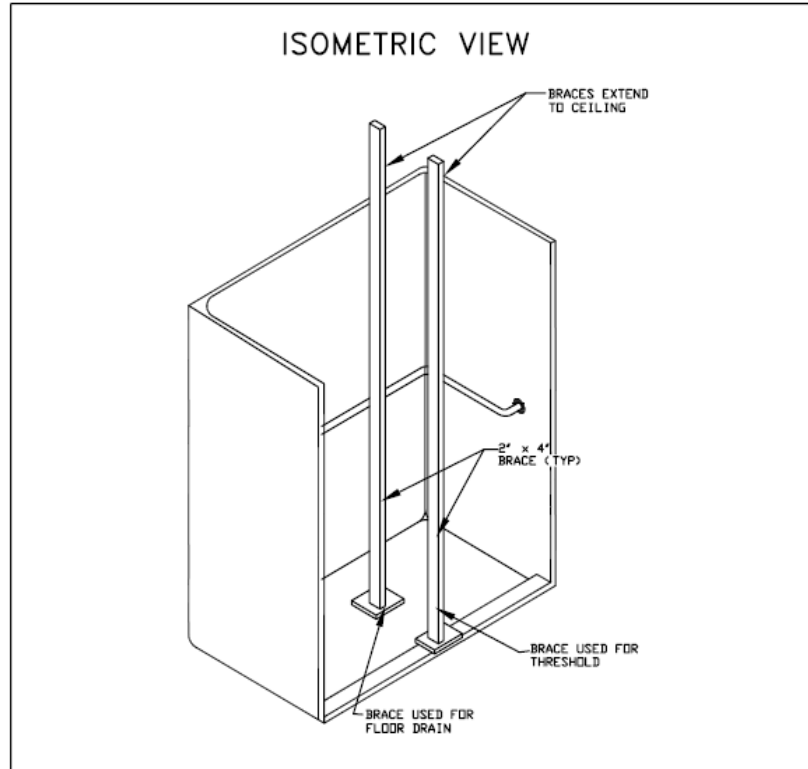

Figure 2
- 13) Place the brace from the ceiling to the 10" piece of wood. This should be a tight fit. (See Figure 2)